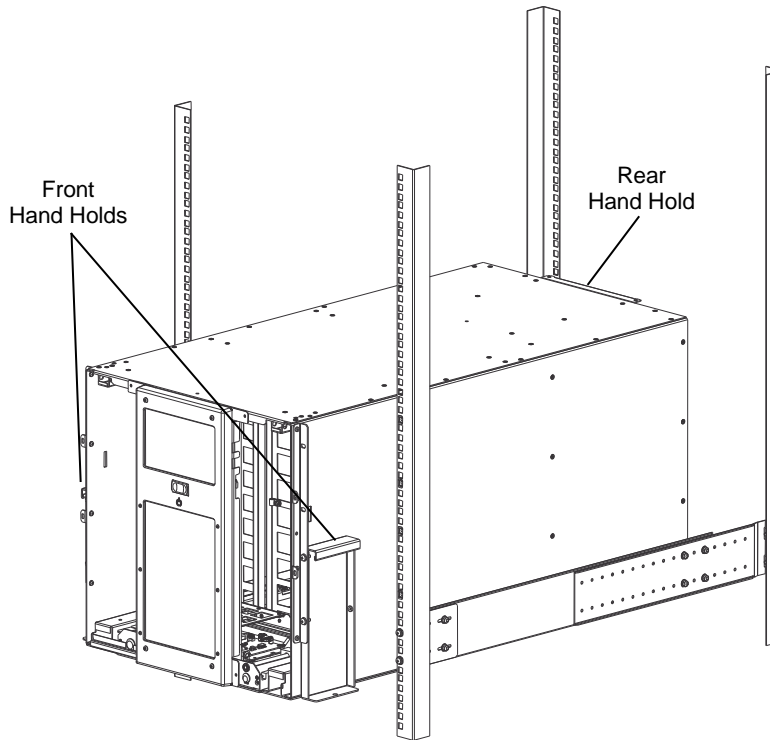

Figure 5-6 Library being inserted into the Rack (RLS-85XX shown)
4. Have two or more people lift the library by grabbing the front and rear hand holds as seen in Figure 5-6. Place it between the rack posts and slide it back on